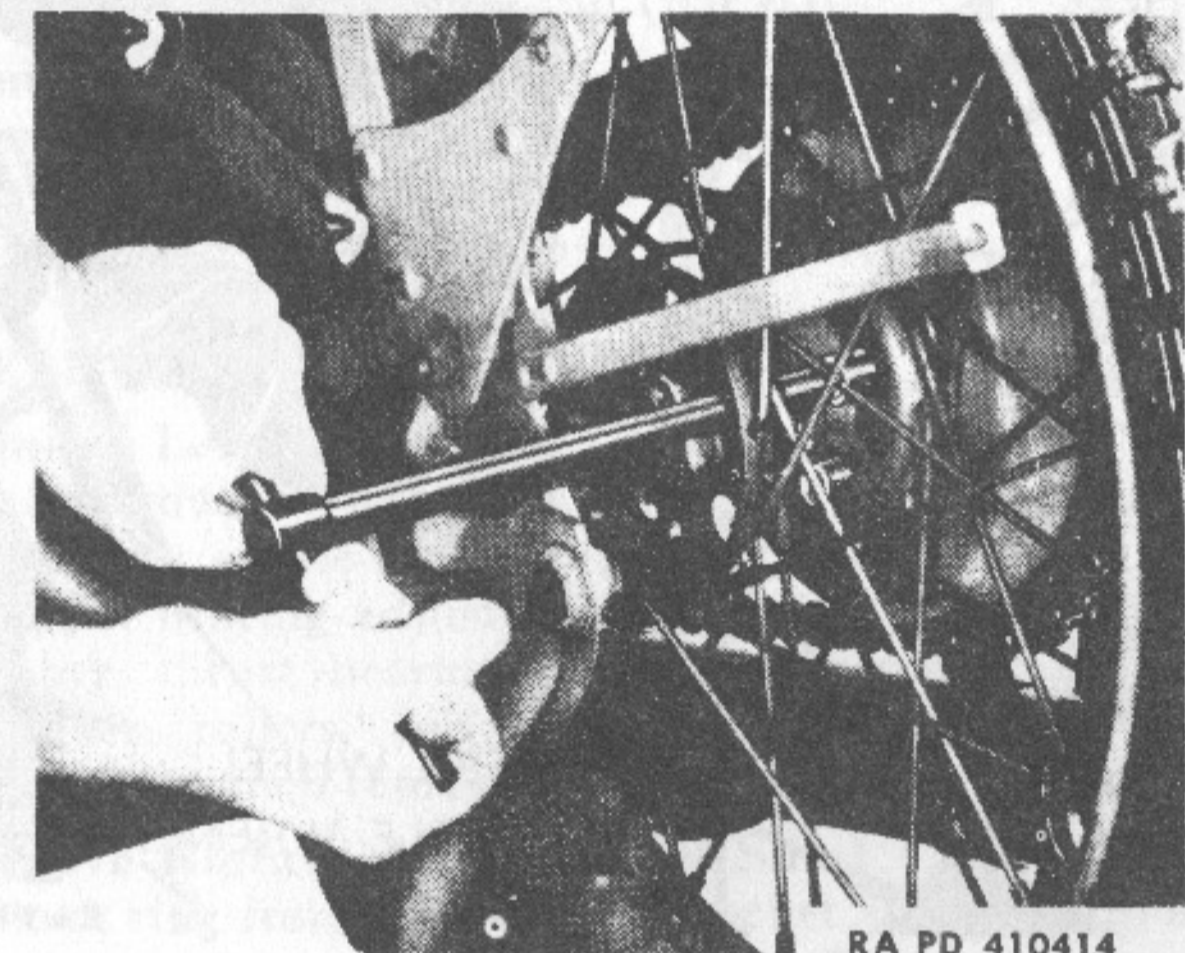
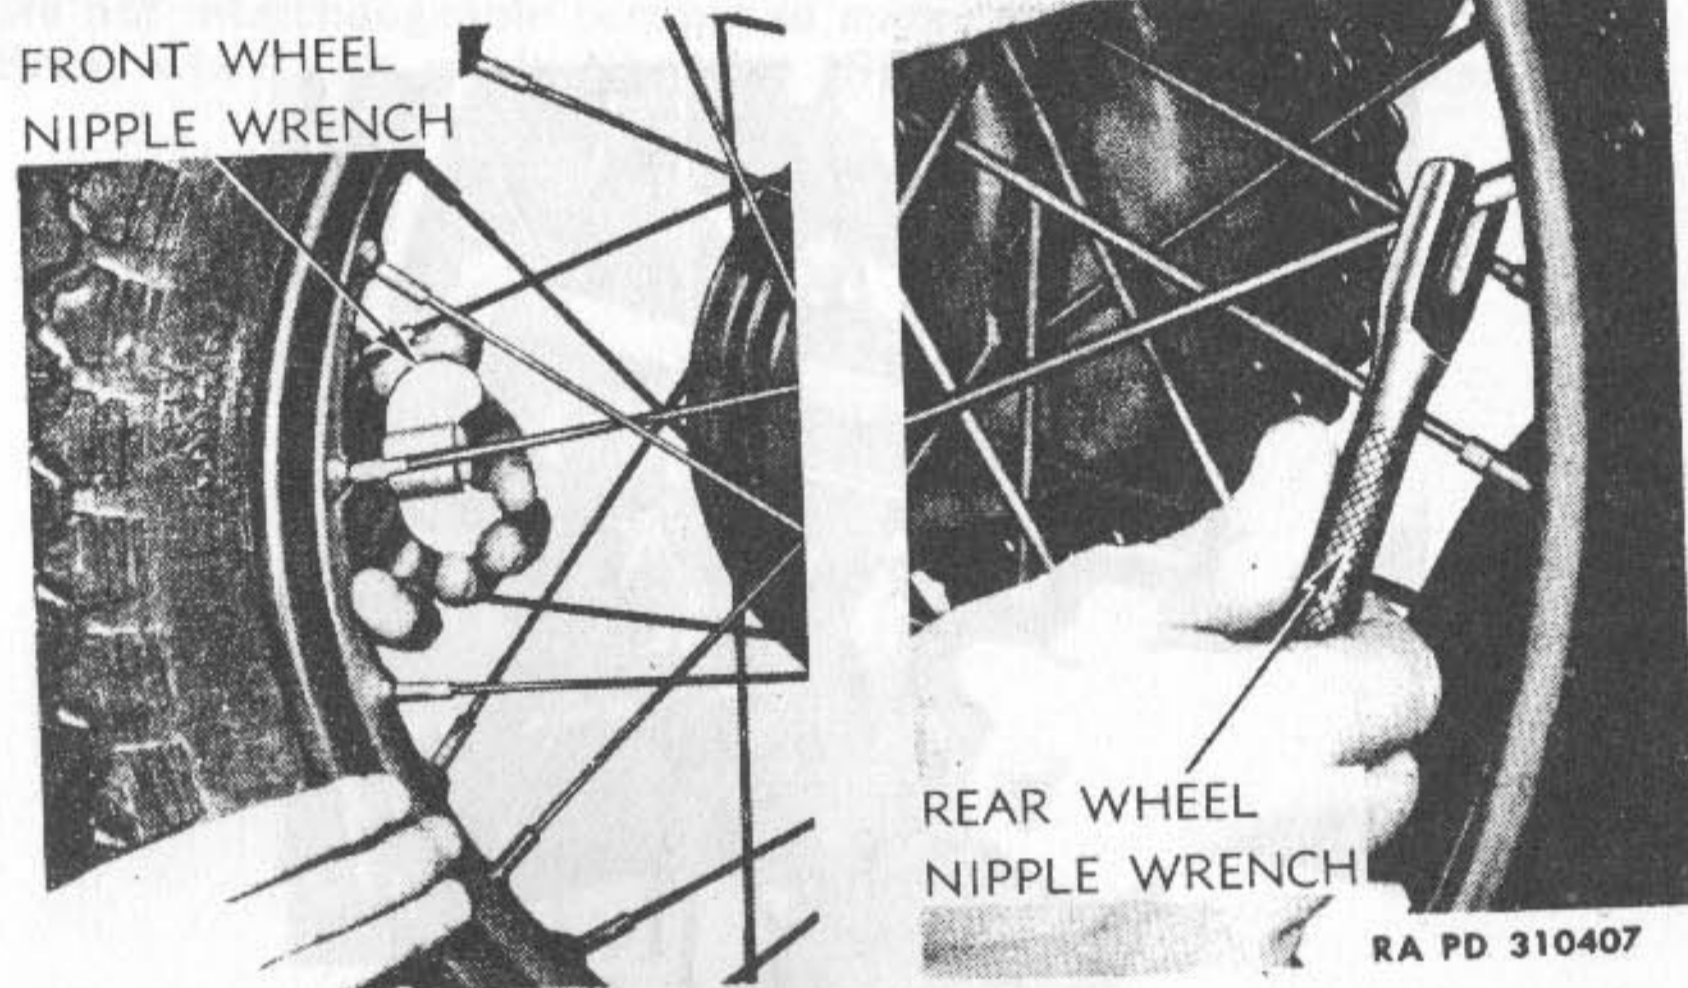

Figure 118—Removing Rear Wheel Mounting Screws with Wrench (41-W-3832)
Figure 119—Front and Rear Wheel Spoke Replacement, Using Spoke Nipple Wrenches (41-W-3340) Rear and (41-W-3339) Front
removing rear wheel (fig. 118). Replace any damaged, bent, broken or stripped thread spokes. Use wrench 41-W-3340 for rear wheel spoke nipples, and wrench 41-W-3339 for front wheel spoke nipples (fig. 119). Replace any nipples not in good condition. Where only several spokes are replaced, tighten accordingly, and see that wheel rim is true after spoke tightening.
b. **Center and True Rim.** Use wrench 41-W-3340 for rear wheel spoke nipples and wrench 41-W-3339 for front wheel spoke nipples (fig. 119). When tightening the spoke nipples, bear in mind that the rim must be centered in relation to the hub. From time to time, check the distance from the rim to the straight edge (or a point on the truing stand) to determine rim center.
(1) True rim so that side weave or wobble and eccentricity are within $\frac{1}{16}$ inch of true.
(2) Tighten all nipples so that each spoke is carrying its share of the wheel load.